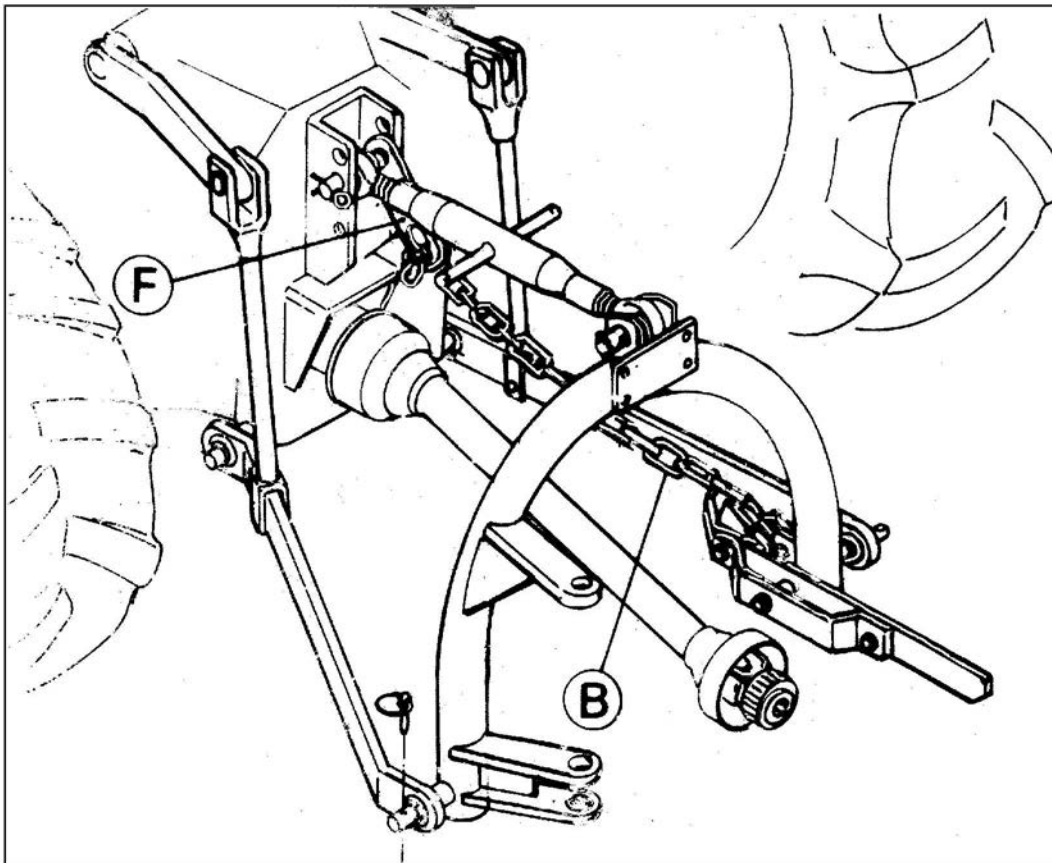

FIG. 5.4
- 1) Raise machine using hydraulic lift and disconnect chain "B" as shown in Figure 5.4.